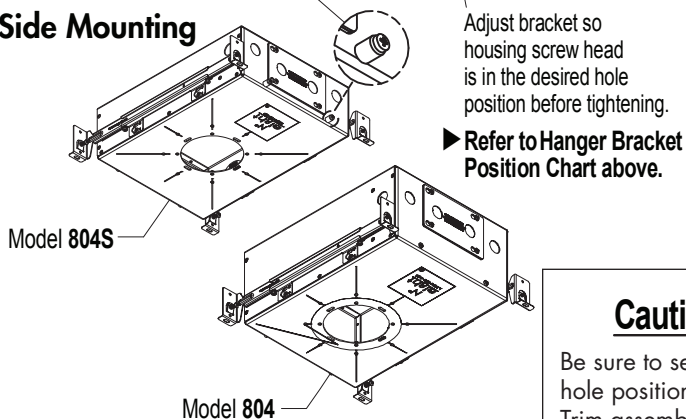

FIG 1.1 Installing Hanger Bar & Hanger Bracket Set
STEP 2 Loosen 2 screws slightly on Housing to attach or adjust each Hanger Bar Bracket. Position Hanger Bar Bracket in hole position 1 or 2 & secure screws – FIG 1.1 & 1.2.
STEP 3 Assemble Hanger Bar A & B through each Hanger Bar Bracket to slide onto each other. The ends should have 1" minimum overlap. Hanger Bars can be shortened at break locations shown – FIG 1.1.